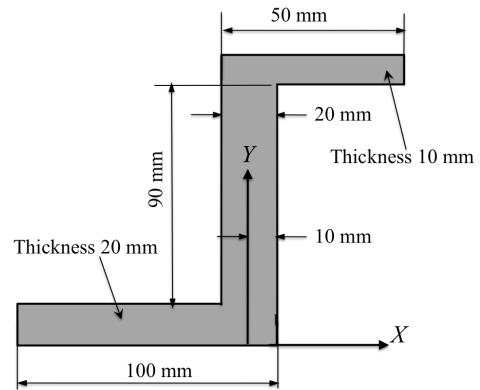

Figure 1
1. (a) Calculate the centroidal coordinates ( $X_c$ ,  $Y_c$ ) of the area shown in Figure 1. (6)
- (b) Compute the second moments of area  $I_{XX}$ ,  $I_{YY}$  and  $I_{ZZ}$ . (10)